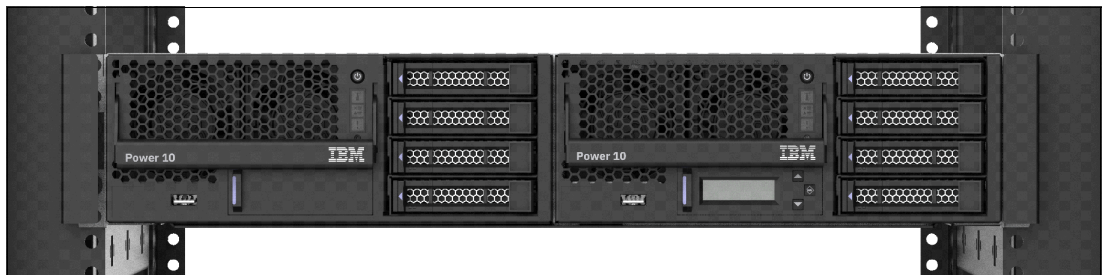

Figure 1-7 Two System S1012 systems rack mounted side-by-side in a single 2u space
1. Two side by side Power S1012 systems in the cage as shown in Figure 1-7 on page 7.